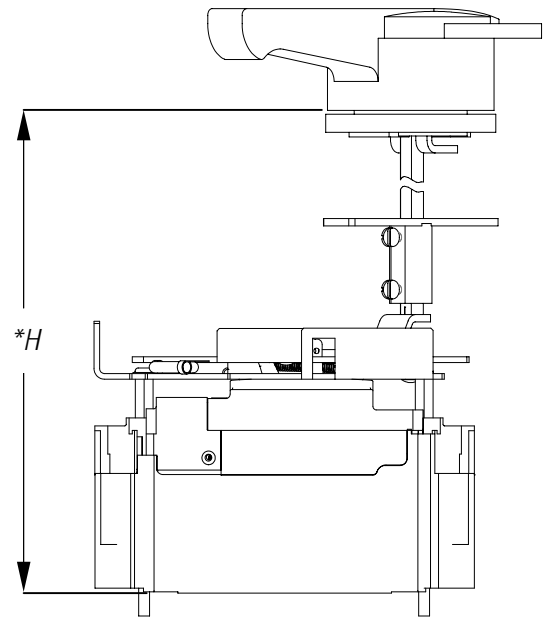

Figure 7. Mounting the breaker in the enclosure.
- c. Measure the distance from the breaker-mounting surface to the handle-mounting surface, H, as shown in figures 7 & 10.
- d. Cut the handle arm [8] to the length L given by $L = H - 5 \frac{29}{32}$ inch (150 mm), as illustrated in Figure 7 & 8.